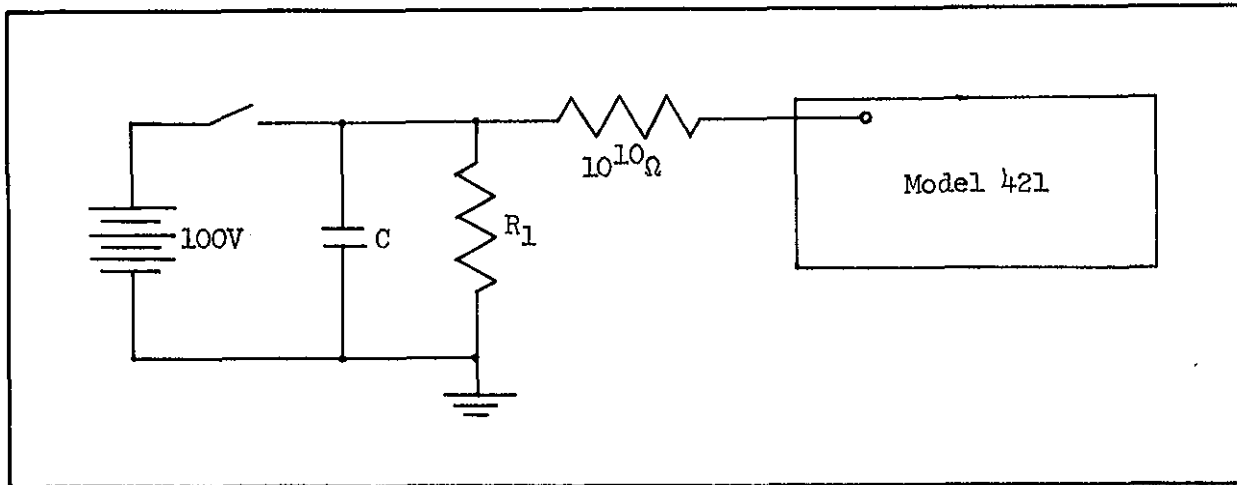

FIGURE 3. Diagram for Calibration of Period Circuit
a. To simulate the exponential change in reactor power level, a capacitor discharge may be used to set up an electrical analog. The voltage discharge may be converted into a current by using a Himeg resistor to connect the capacitor into the log n amplifier input as shown in Figure 3.